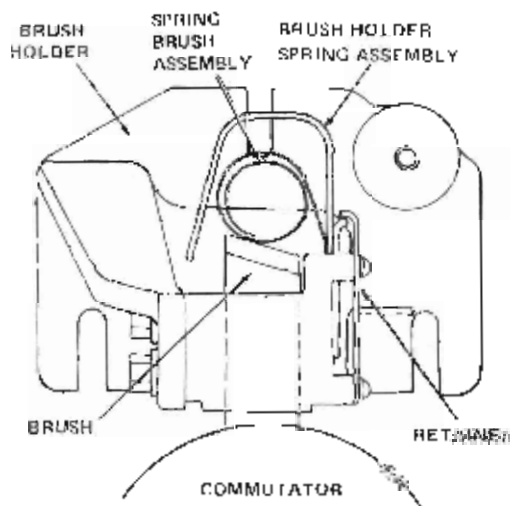

Figure 5-39. Constant-Pressure Brush Holder, DC Motors
8. Newer DC motors are equipped with the constant-pressure type brush holder shown in Figure 5-39. If insufficient pressure exists, it can only be corrected by replacing the brush spring assembly.
b. If constant pressure brush holders are used (Figure 5-39), push down slightly on the brush holder spring